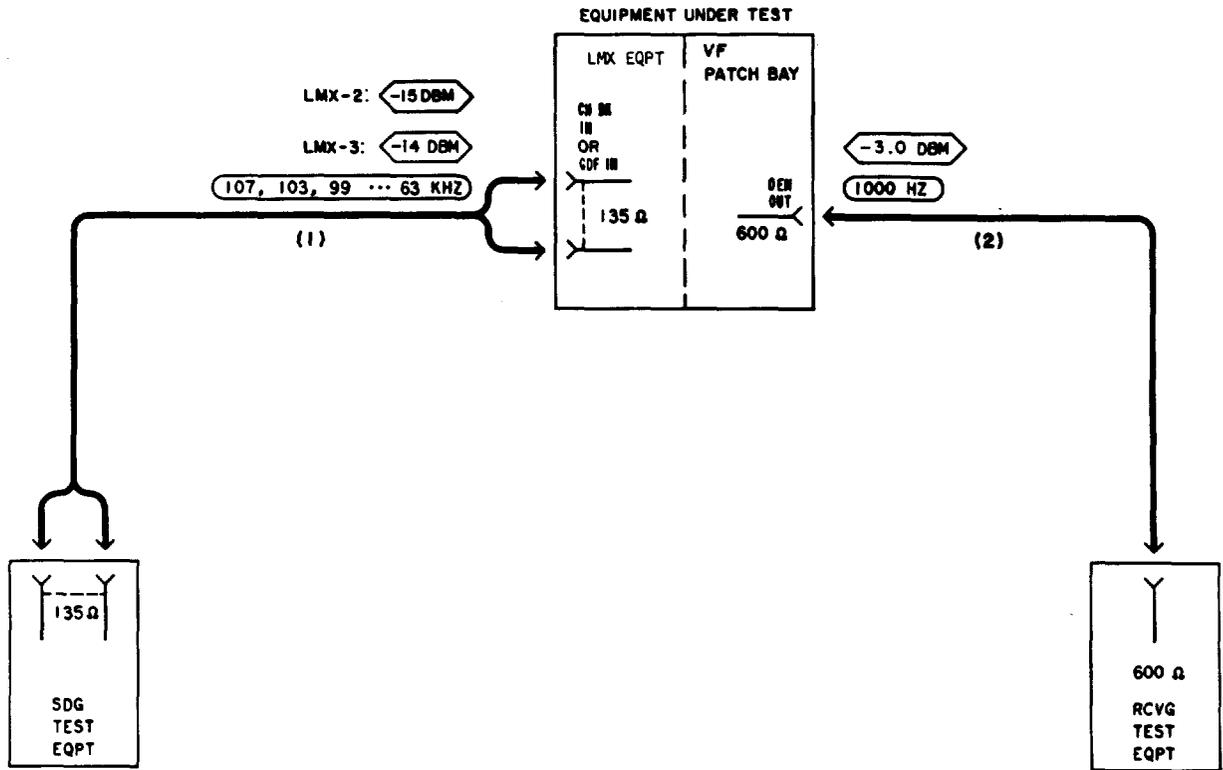

Fig. 4—Patching Diagram—Receiving Level Adjustment
| 3 | At the LMX equipment, connect the STE to the CH BK IN (LMX-2) or GDF IN (LMX-3) jack [patch (1), Fig. 4]. |
| 4 | Connect the RTE to the DEM OUT jack for the channel under test [patch (2), Fig. 4]. |
- (1) Replace the applicable plug-in channel modem unit with a spare.
- (2) If the adjustment of Step 5 *still cannot* be made, reinsert the channel modem removed in Step 6(b)(1) and refer to Sections 356-015-500 and 356-015-501, Chart 4, to clear channel filter problems.
- 7 Remove patch (2), Fig. 4.
- 9 At the LMX equipment, remove patch (1), Fig. 4.